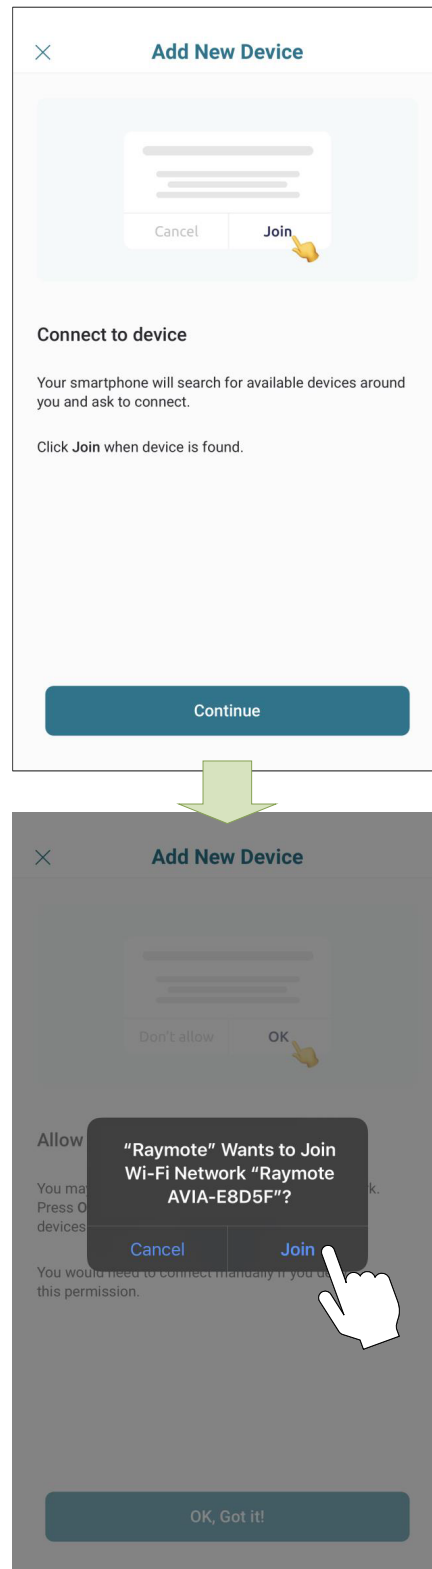

Figure 86. Connecting with iPhone
6. **In iPhone:** Raymote app will start to scan nearby Heaters. If you have multiple units ready to connect, stand closer to the unit you want to connect first. Press "Join" to select the displayed heater that matches the HOTSPOT identifier, or press "Cancel" to start the process again. See **Figure 86**.